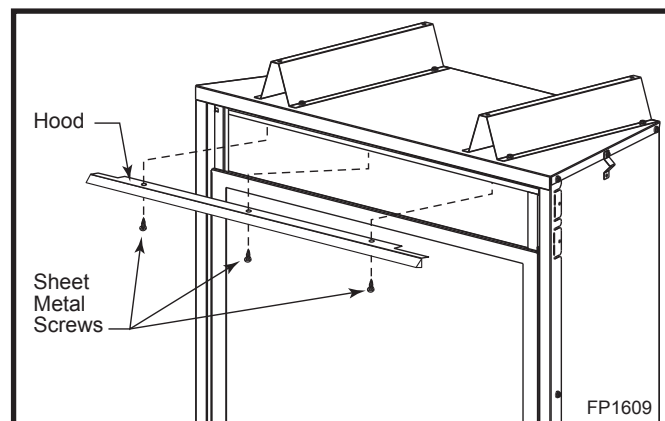

Fig. 6 Secure hood to fireplace with sheet metal screws.
2. Remove three (3) sheet metal screws in bottom flange of fireplace surround top.
3. Install the hood by aligning the three holes in bottom flange of fireplace surround top. (Fig. 6)
4. Secure hood to bottom flange of fireplace surround top using three screws removed in Step 2. (Fig. 6)